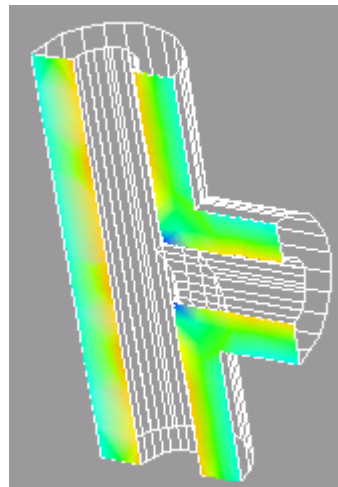

Figure 47 Stopped, Animated Plot
- 8 Click **Animate** again to stop the animation at any point of interest, as in Figure 47.